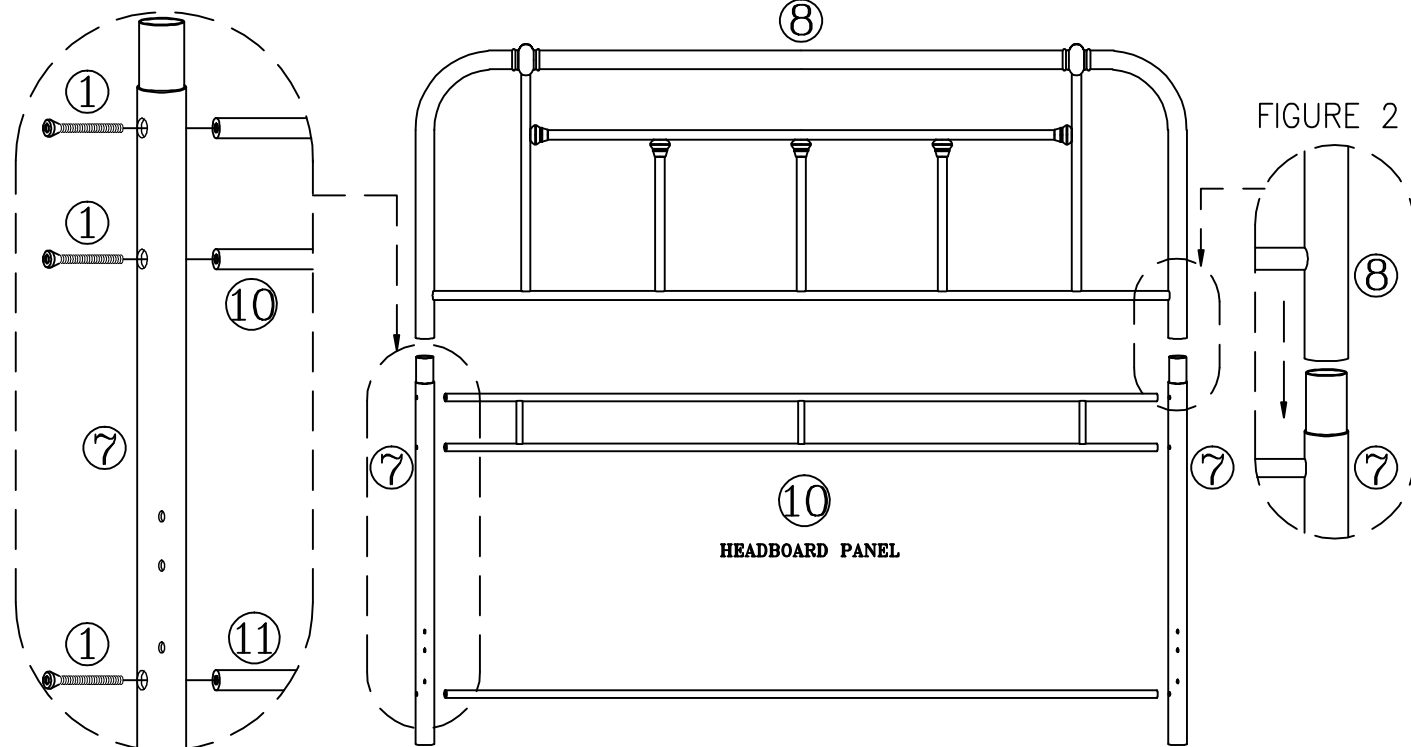

FIGURE 2
- Secure pillow bar (10) with screw (1). Use Allen wrench (6). DO NOT TIGHTEN SCREWS COMPLETELY.
- Repeat same steps with bottom rail (11).
- Now carefully insert headboard panel (8) over extension leg (7). SEE FIGURE 2
- Now tighten all screws (1) completely. Using the Allen wrench (6).